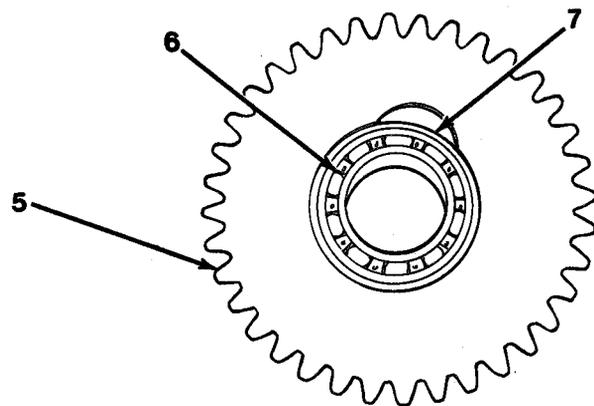
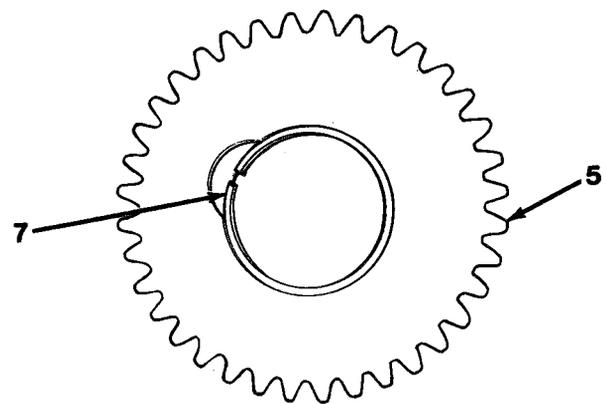

Figure 11-5
Figure 11-6
5. Open snap ring (7) to remove bearing (6) from forward and rear welded assembly (5, Figure 11-5).
6. Remove bearing (6) from forward and rear welded assembly (5) by using a driver.
7. Remove map ring (7), if inspection proves necessary, from forward and rear welded assembly (5, Figure 11-6).